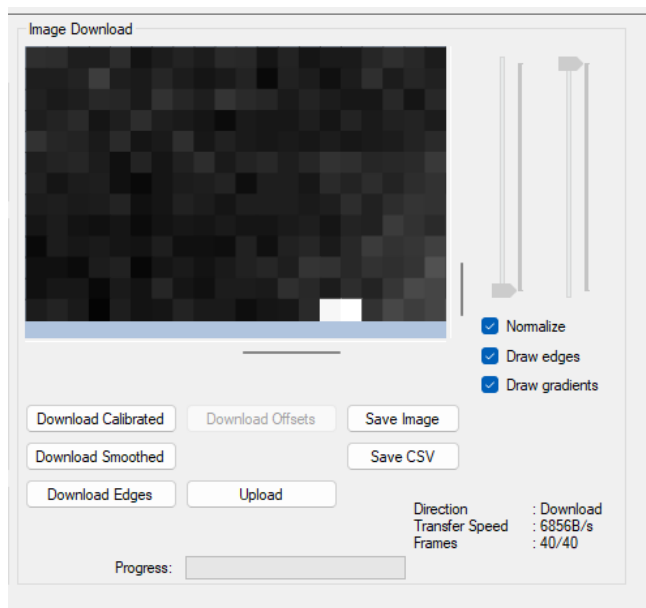
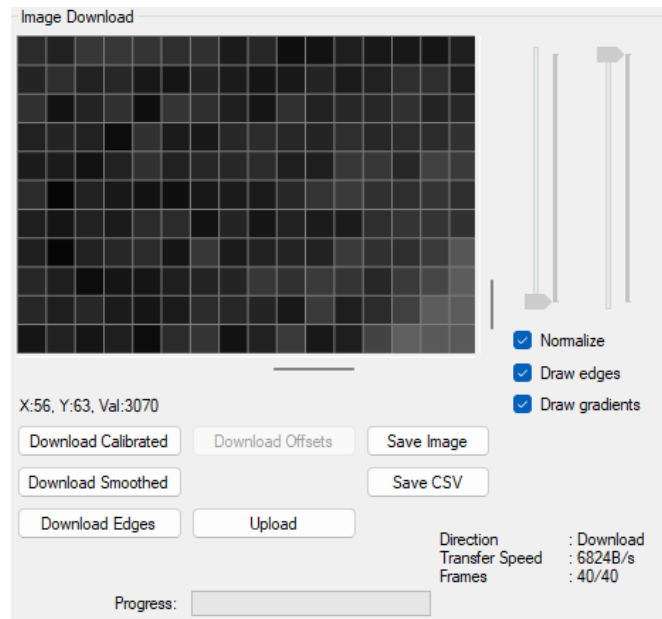
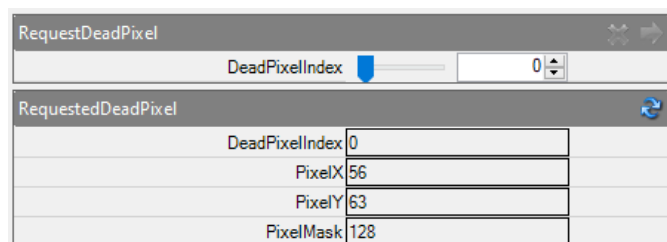
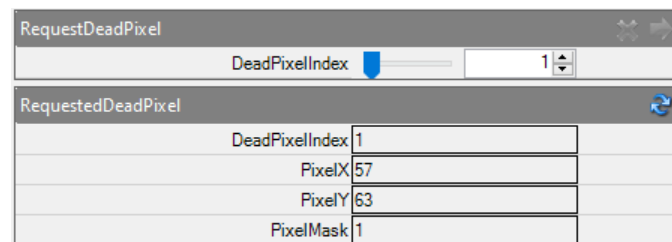

Figure 88: Dead Pixels Pre-Masking
Figure 89: Dead Pixels After Masking
Figure 90: Mask Entry For First Dead Pixel
Figure 91: Mask Entry For Second Dead Pixel
- 2 Locate the X/Y coordinate of the dead pixel on the image. To do this the user can zoom in on the image preview until the grid appears (shown in Figure 89) and then hover the mouse cursor over the pixel of interest.
Using Figure 88 as an example the two dead pixels have coordinates of (56, 63) and (57, 63). The masking pixels that were chosen in this example are shown in Figure 90 and Figure 91. The pixel that was selected for the first pixel is to the top left (PixelMask = 128) and the second dead pixel's mask was selected as the pixel above it (PixelMask = 1). The result of the masking is shown in Figure 89.